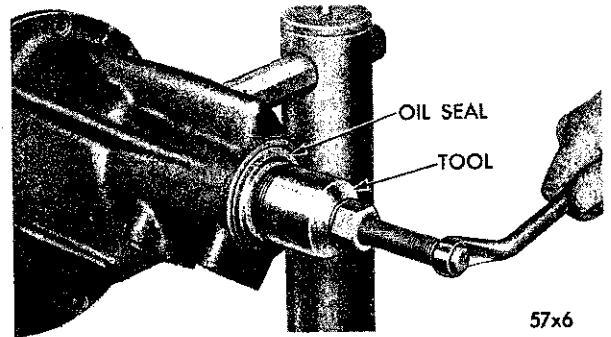

Fig. 10—Removing Pinion Bearing Oil Seal
(3) Install the oil seal puller Tool C-748 by screwing it securely into the pinion oil seal (Fig. 10) and tighten the puller screw to remove the seal.
(4) While holding one hand over the companion flange end of the carrier, invert the carrier in the stand. The oil slinger, front bearing cone shim pack and bearing spacer (where used) will drop from the carrier.
(5) Withdraw the pinion and rear bearing cone from the carrier.